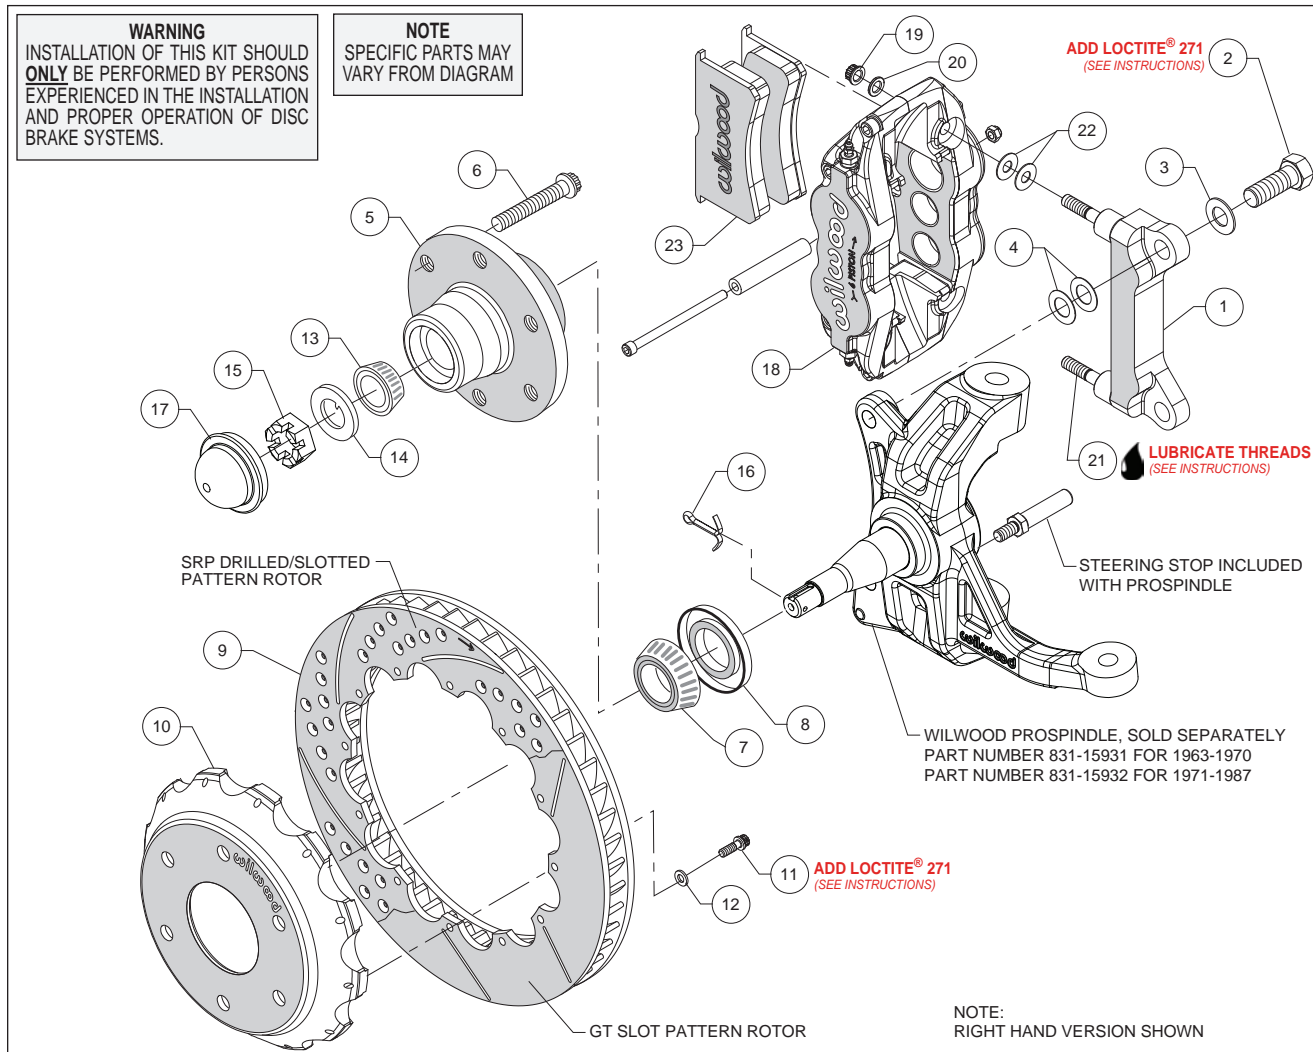
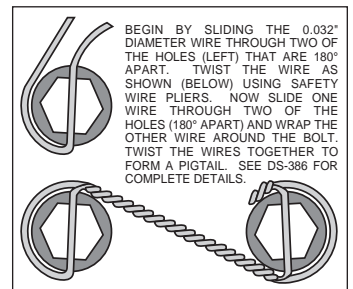

Figure 1. Typical Installation Configuration
Figure 3. Safety Wire Diagram
**Assembly Instructions** (numbers in parenthesis refer to the parts list and Figure 1 on the preceding pages):
- Install the steering stop bolt (included with the ProSpindle) into the spindle as shown in Figure 1 and Photo 1. Torque to 25 ft-lbs.
- The caliper mount bracket (1) should initially be installed with clean, dry threads on the mounting bolts. Orient the bracket, as shown in Figure 1 and Photo 2, and install using bolts (2) and washers (3). Initially place two .024" thick shim (4) on each bolt between the bracket and spindle, Figure 1. Temporarily tighten the mounting bolts. **NOTE:** *The bracket must fit squarely against the mount bosses on the spindle.* Inspect for interference from casting irregularities, machining ridges, burrs, etc. Later, after the caliper alignment has been checked, the mount bolts will be secured using red *Loctite*® 271.
- Install wheel studs (6) into the hub (5), Photo 3. Torque to 77 ft-lb.
- Press the dust cap (17) into the hub (5). **NOTE:** *Do not hammer center of cap. Install using outer flange only.*
- Orient the rotor (9) and the hat (10) as shown in Figure 1 and Photo 7. Attach rotor to hat using bolts (11) and washers (12). Using an alternating sequence, apply red *Loctite*® 271 to the threads, and torque to 155 **in-lbs**. For an added measure of security, the bolts may be safety wired using standard 0.032 inch diameter stainless steel safety wire as shown in Figure 3. Refer to Wilwood's data sheet DS-386 (available at [www.wilwood.com/Pdf/DataSheets/ds386.pdf](http://www.wilwood.com/Pdf/DataSheets/ds386.pdf)) for complete safety wire installation instructions.
- Slide the hat/rotor assembly (10 and 9) onto the hub (5), Photo 8. **NOTE:** *The hat must fit flush against the hub face or excessive rotor run out may result.* Install three lug nuts (finger tight) to keep the hat/rotor assembly in place while continuing with the installation, Photo 8.
- **NOTE:** *This kit contains distinct right and left hand calipers that must be mounted in a specific direction, as described below.* Lubricate the caliper mounting studs (21) with lightweight oil. Initially place two .035" thick shims (22) on each stud between the caliper and the bracket, as shown in Figure 1 and Photo 9. Mount the caliper (18) onto the bracket (1) using lock nuts (19) and washers (20), Figure 1. Temporarily tighten the lock nuts.